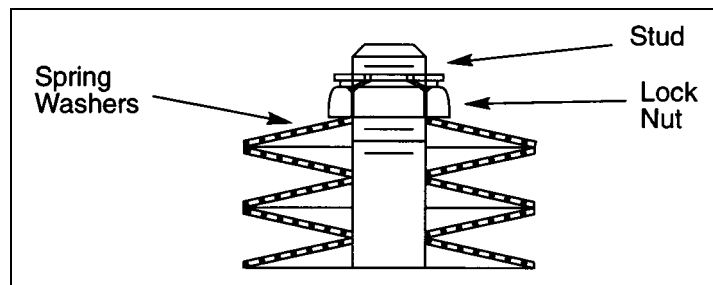

Figure 5—Spring Washer Detail
5. Place the spring washers on the plug stud as shown in Figure 5.
14. Place the spring washers on the plug stud as shown in Figure 5.